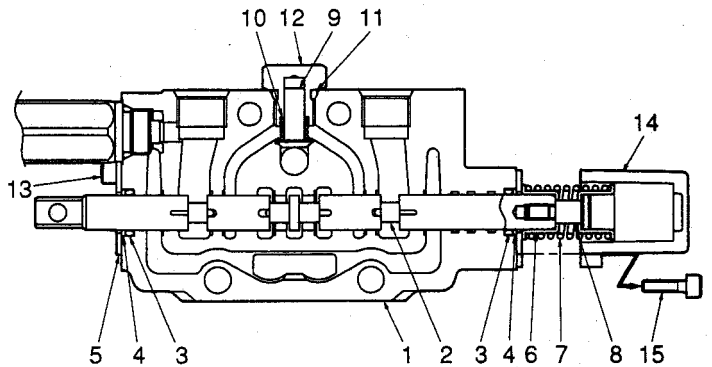

Fig. 30 Dozer spool (manual changeover type)
- 2) Remove the cover (13).
- 3) Remove the spool assy from the body (1) by means of pulling the spring (4) for axial direction.
- At that time, confirm that if the O-ring (11) is left at the bottom of the cover (12) in opposite side.
(B) In case of Manual Changeover Type (based on Fig. 2 Dozer spool, Section A-A for an example - Fig. 30)
- 1) Remove two socket bolts (15).